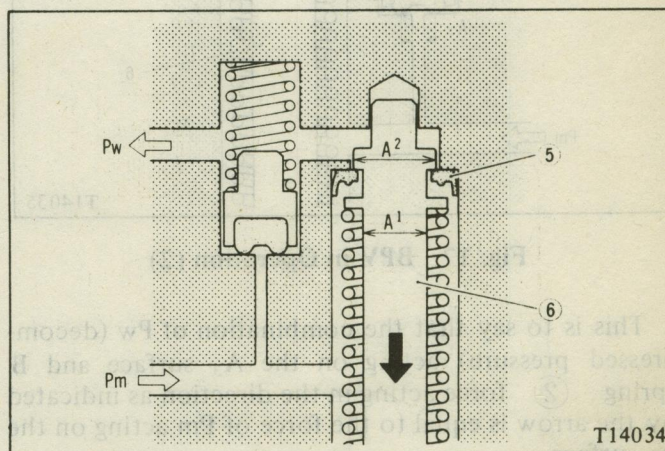

Fig. 16 BPV in Operation (1)
Now, when the inequality is valid, P piston (6) is driven by P_w in the direction as indicated by the arrow and this causes the fluid circuit to be closed as P piston (6) comes in close contact with P seal (5) (See Fig. 16).